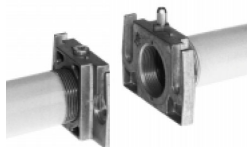

Fig. 4
1. Mount flange onto tube lines: use appropriate sealing agent (see Fig. 4);
2. insert MB-DLE: note position of O rings (see Fig. 4);